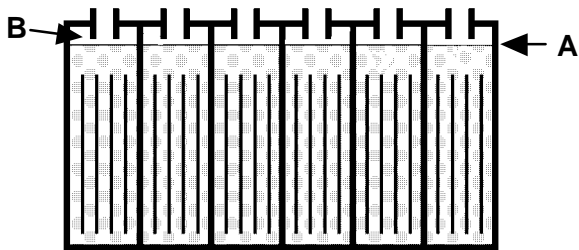

FIG. 19
- Recheck battery electrolyte level (A) after charging. Add distilled water to bring level 1cm from bottom of sight tubes (B). Replace cell caps securely and wipe off the top of batteries with a clean cloth (Figure 19).